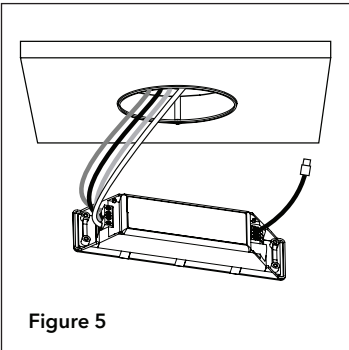

Figure 5
5. Connect power wires from power supply in ceiling to luminaire with quick-connector (Fig. 5).
5. Remove mud ring plug. Pull line, ground, neutral, and dimming lines through ceiling opening and connect to power supply (Fig. 5).